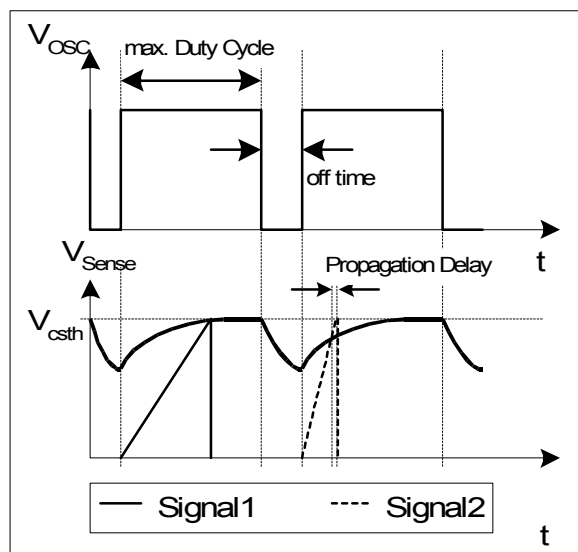

Figure 15 Dynamic Voltage Threshold V_{csth}
E.g. $I_{peak} = 0.5\text{A}$ with $R_{Sense} = 2$. Without propagation delay compensation the current sense threshold is set to a static voltage level $V_{csth} = 1\text{V}$. A current ramp of $dI/dt = 0.4\text{A}/\mu\text{s}$, that means $dV_{Sense}/dt = 0.8\text{V}/\mu\text{s}$, and a propagation delay time of i.e. $t_{Propagation Delay} = 180\text{ns}$ leads then to an I_{peak} overshoot of 14.4%. By means of propagation delay compensation the overshoot is only about 2% (see Figure 15).
The propagation delay compensation is done by means of a dynamic threshold voltage V_{csth} (see Figure 15). In case of a steeper slope the switch off of the driver is earlier to compensate the delay.